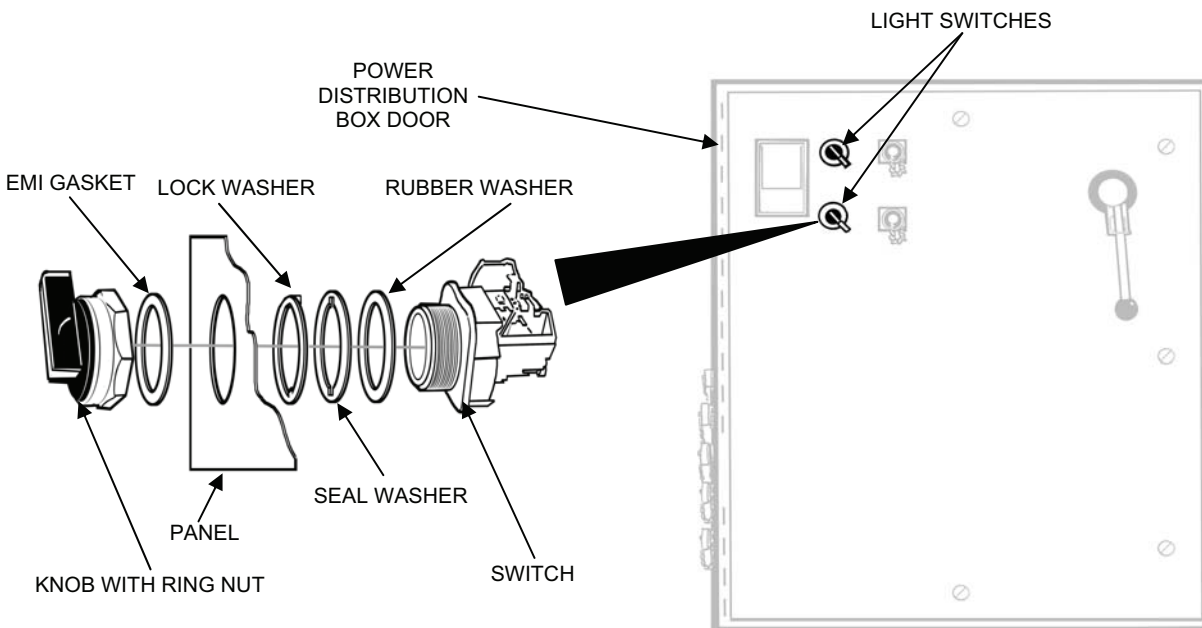

Figure 16. Light Switch Replacement.
1. Remove a light switch as follows (see Figure 16):